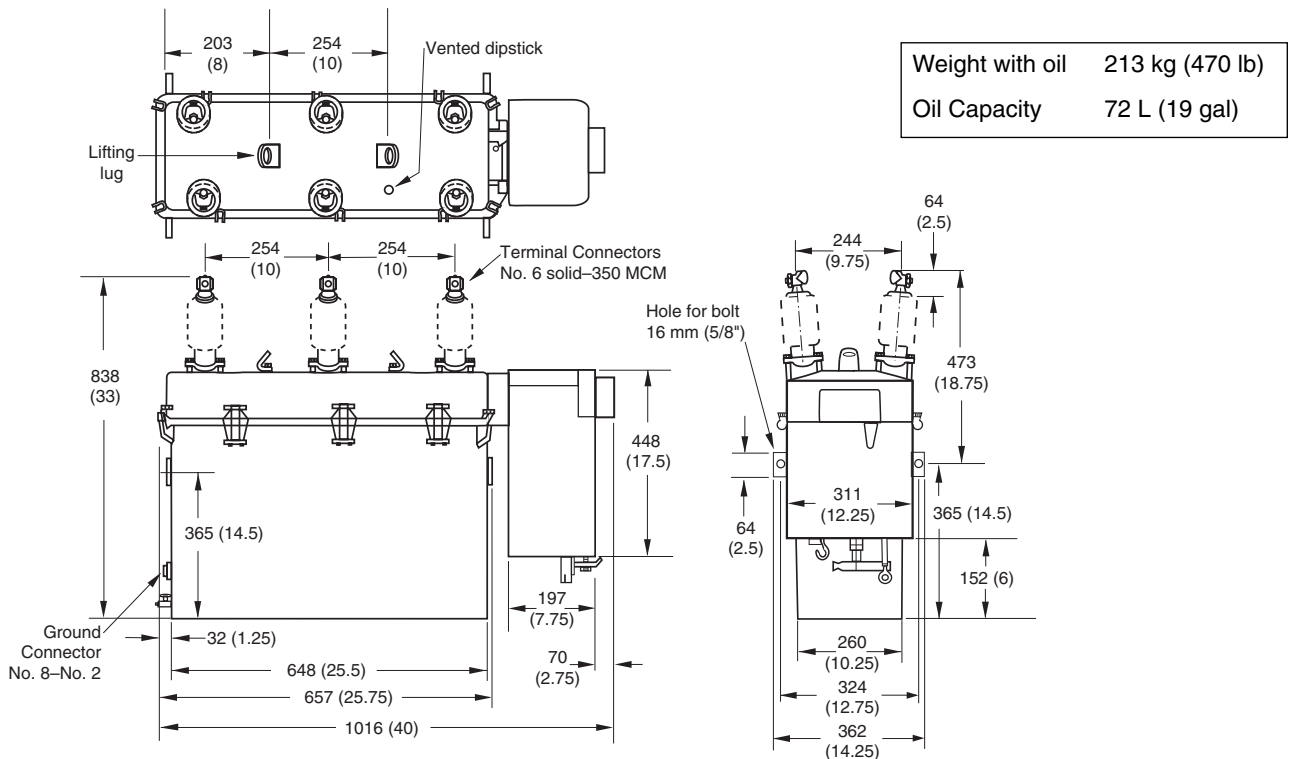

Figure 3.
2. Pull down the yellow operating handle with a hot-stick. The yellow operating handle is located under the sleet hood (see Figures 3 and 4).